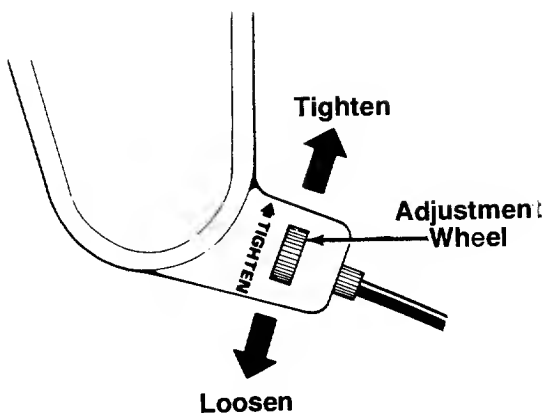

FIGURE 20.
3. Attach spark plug wire to spark plug. Make certain the metal loop on the end of the spark plug wire (inside the rubber boot) is fastened securely over the metal tip on the spark plug. See figure 20.
Use the adjustment wheel located in the clutch control housing to tighten the drive belt if mower does not self-propel with the drive clutch control engaged, or if drive belt is slipping (unit hesitates while engine maintains the same speed). See figure 20.